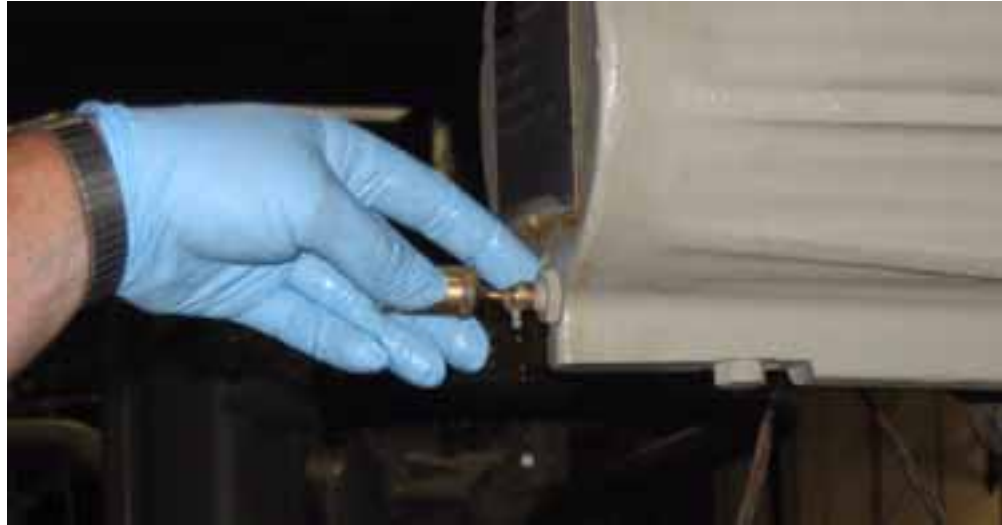

Figure 5. Removing the Schrader Core
4. Remove the schrader core on the piston housing, this will remove all pressure and allow residual oil to drain. See Figure 5